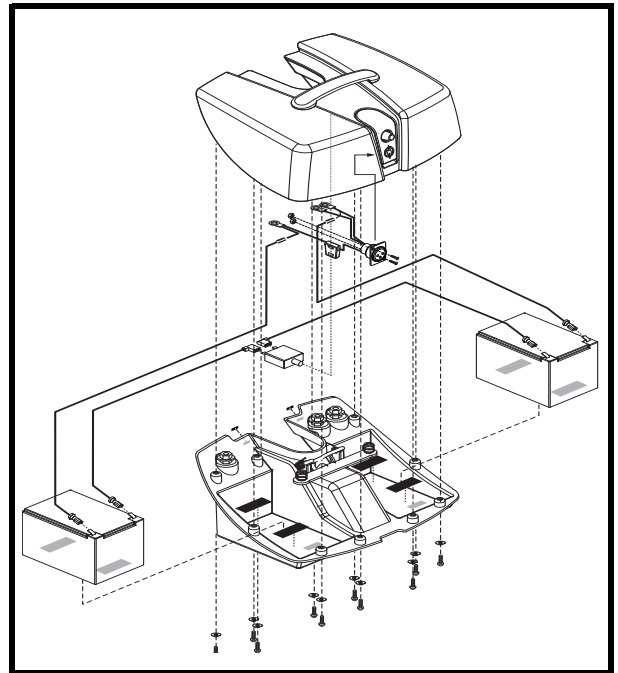

Figure 25. Go-Chair Battery Box
3. Remove all screws that hold the battery box halves together. See figure 25.